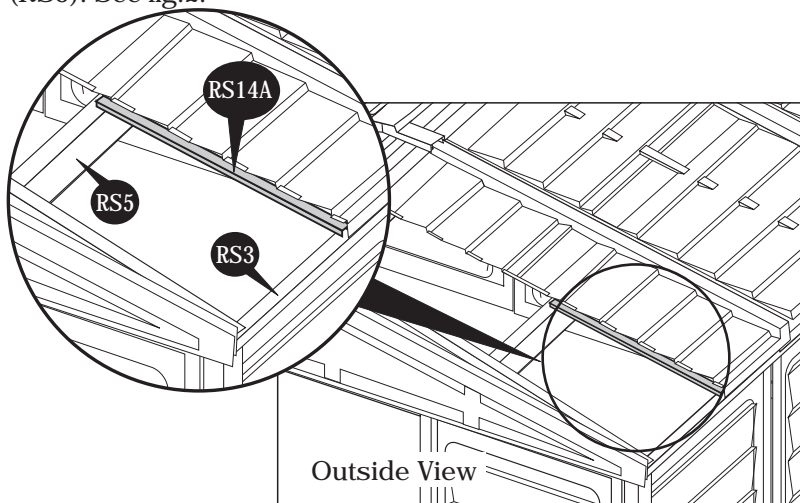

Fig. 1
5. Insert the sagging support (RS14A) from inside the shed by sliding in between roof structure (RS5) and roof panel until it reaches (RS3) roof structure for each panel. See fig.1.
1. Attach the doors left and right (see fig.1) with Loose pin hinges on door columns (CDLA) and (CDRA).